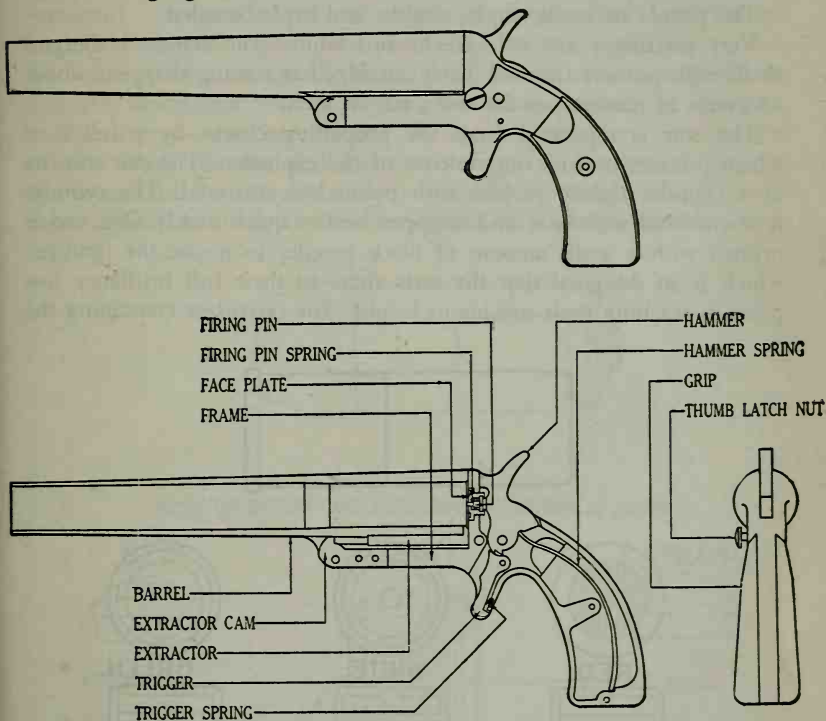

FIG. 52-2—Very's pistol.
*Very signals.*—In addition to the rocket, signal cartridges are issued for use in the Very's pistol. This pistol (Fig. 52-2) is designed to take a 10-gauge, center-fire, brass-headed, paper, shotgun shell. The